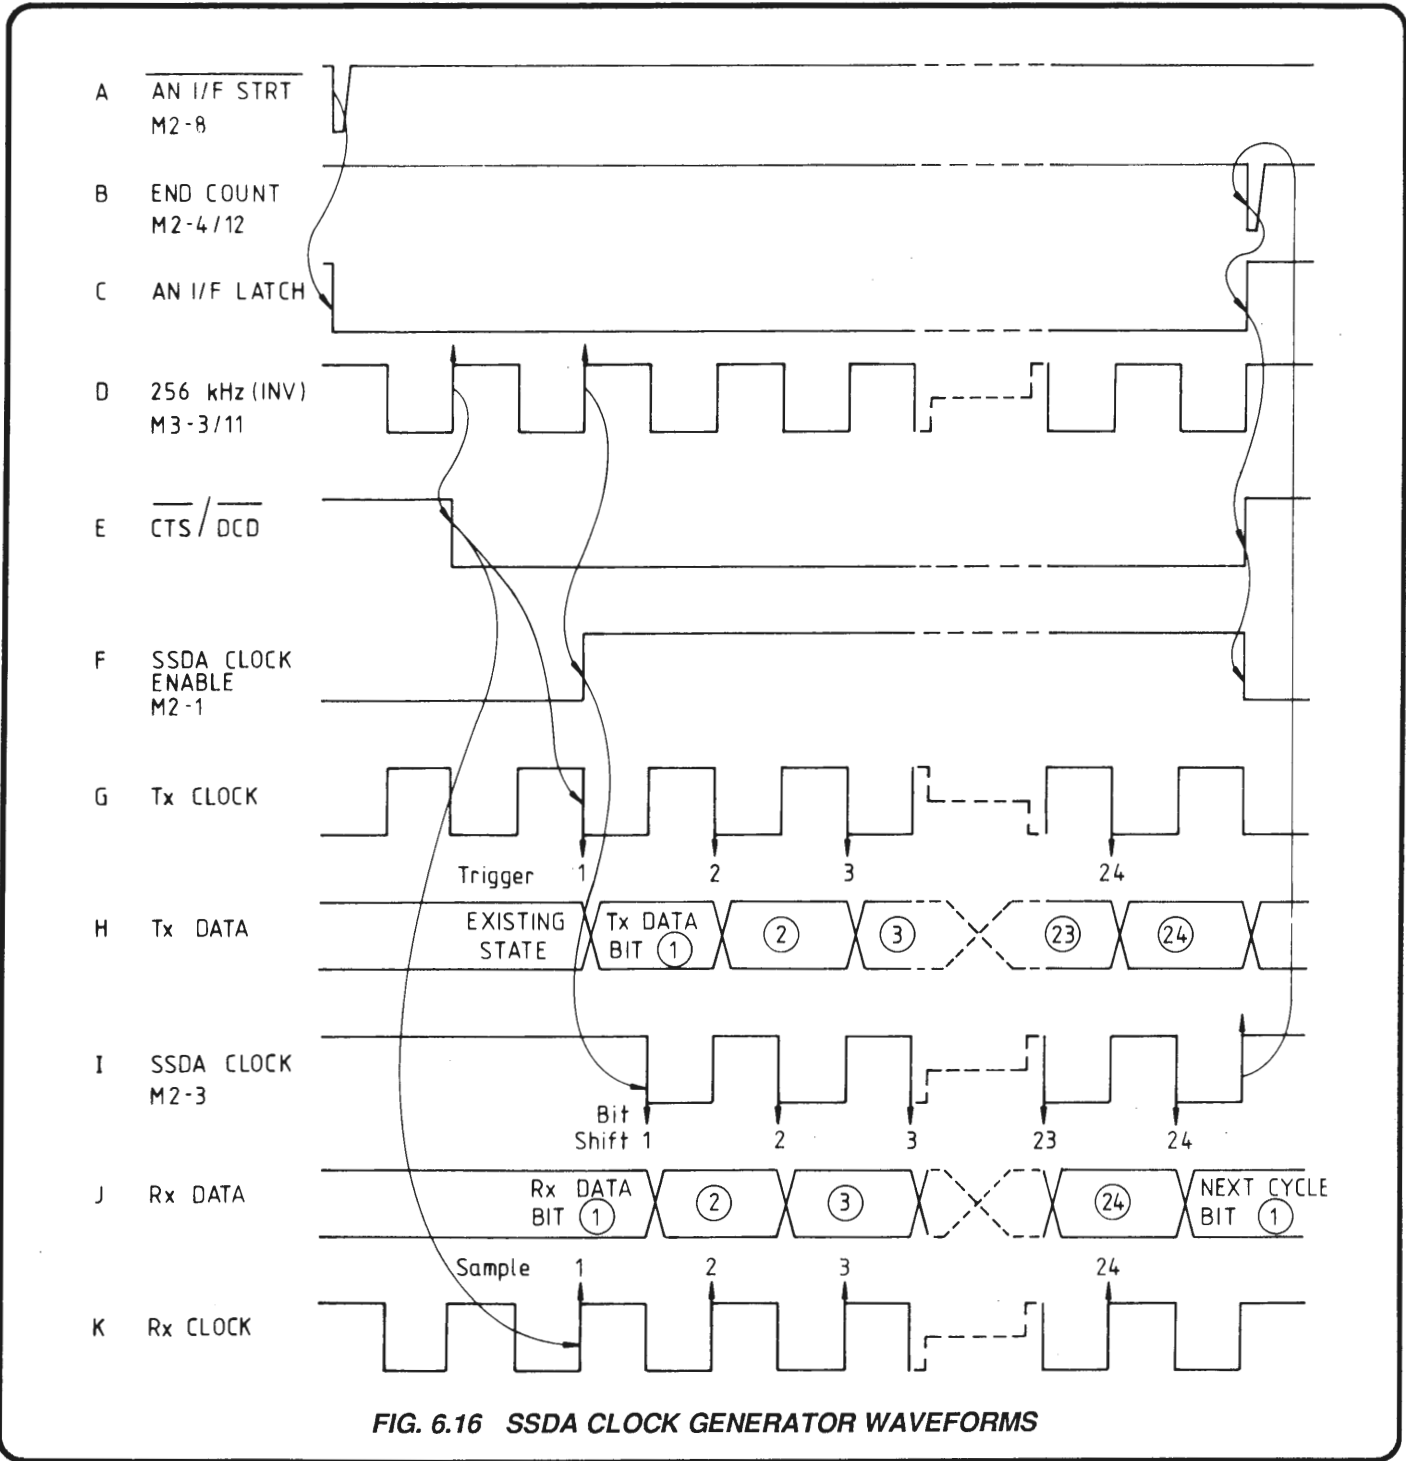

FIG. 6.16 SSSA CLOCK GENERATOR WAVEFORMS
6.4.4.1 SSDA, Tx and Rx Clock Action (Fig. 6.16)
(Refer to Fig. 6.16 Waveforms G and H).
(Fig. 6.16 Waveforms K and J).
(Refer to Fig. 6.16 Waveform I).
(Refer to Fig. 6.16 Waveforms A and C).
(Refer to Fig. 6.16 Waveforms D and E).
(Refer to Fig. 6.16 Waveforms D, F and I).
(Refer to Fig. 6.16 Waveforms I, B, C, E and F).